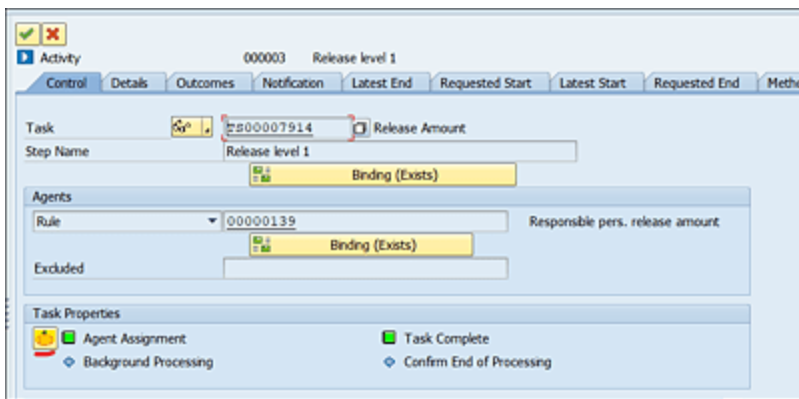
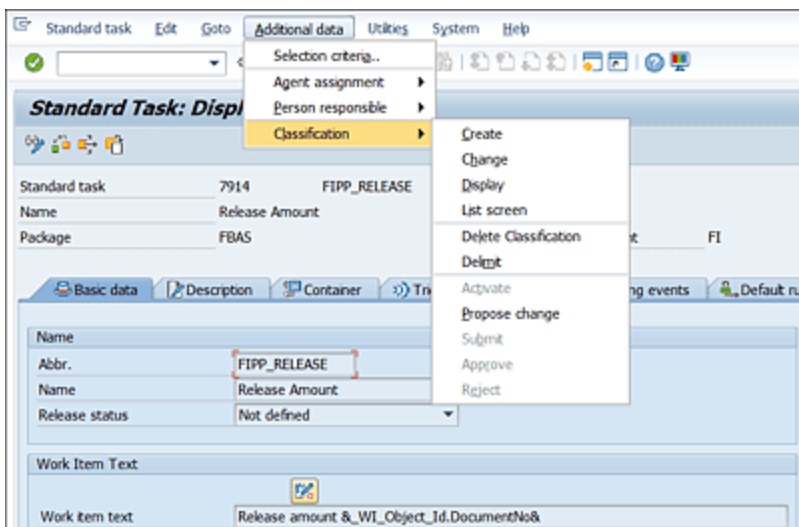
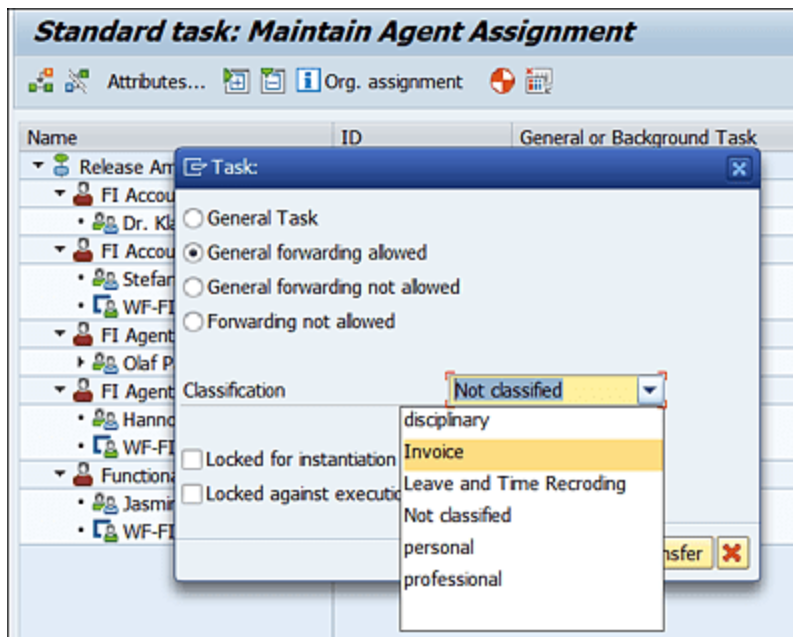

Figure 8.17 Maintain Task Classification in the Task Attribute Maintenance Screen
Figure 8.18 Create Classification from the Task Maintenance Screen
Figure 8.19 Maintenance of Task Classification
2. Assign the task classification in the dialog task attribute. You can assign the task classification from the workflow step screen (see Figure 8.17) or from the task maintenance screen (see Figure 8.18).
3. Click the agent assignment task button  in Figure 8.17 or choose **Additional Data • Classification • Create/Change** from the menu path shown in Figure 8.18. You'll get the screen shown in Figure 8.19.
4. You have to select the classification value (e.g., **Invoice**) in the **Classification** field, as shown in Figure 8.19.